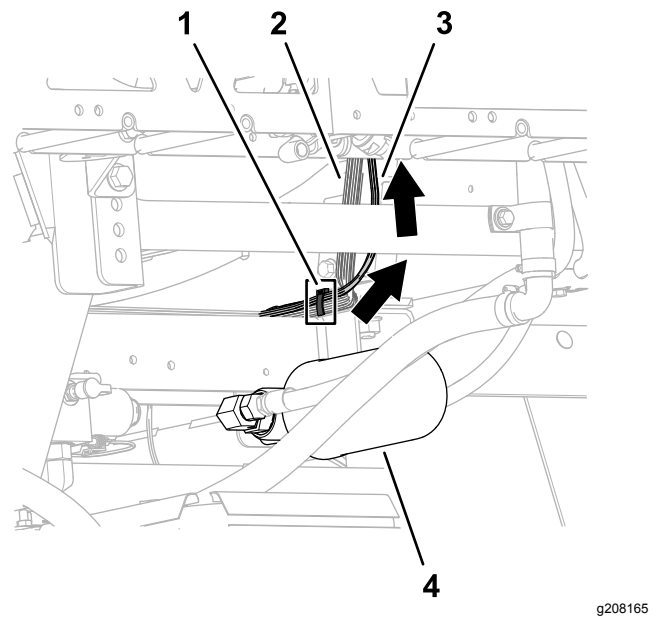
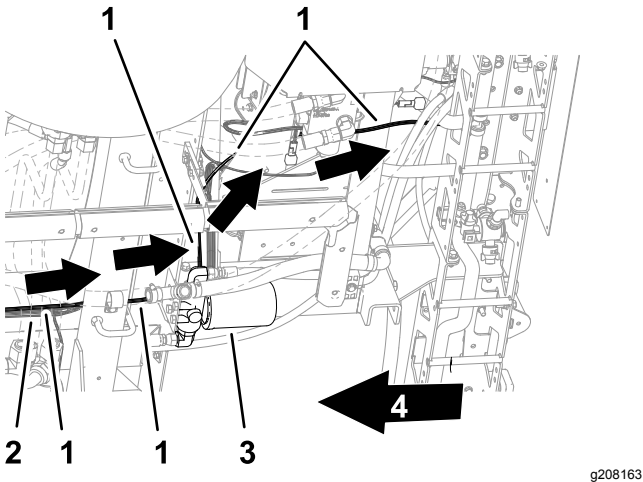

Figure 44
Figure 43
- Secure the wire harness of the kit to the rear wire harness of the machine with a cable tie as shown in Figure 44.
- Route the wire harness branches and trunk up at the center spray section as shown in Figure 43 and Figure 44.